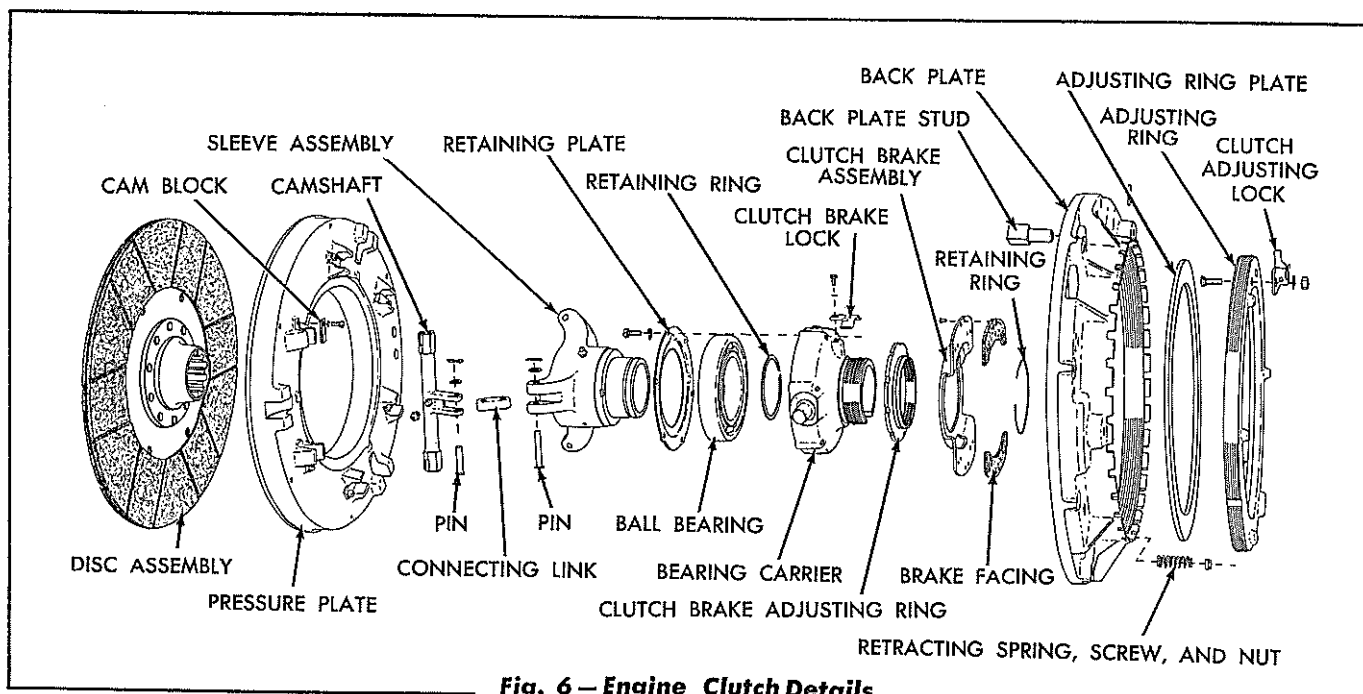

Fig. 6 – Engine Clutch Details
Refer to Fig. 6 and disassemble the clutch as follows:
Refer to Figs. 6 and 7 and assemble the clutch by direct reversal of the disassembly procedure. **IMPORTANT:** When installing the three (3) pins used to connect the connecting links to the clutch camshafts, install them so that the heads of the pins are to the right when the pin is located at the top